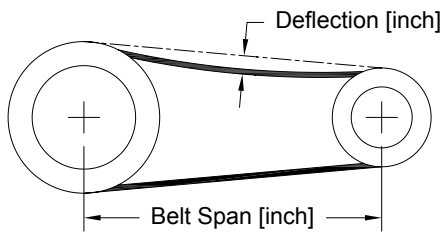

Figure 10. - Belt Tension
2. Adjust the motor plate until proper tension is reached. For proper tension, a deflection of approximately $1/60''$ per inch of center distance should be obtained by firmly pressing the belt. Refer to Figure 10.